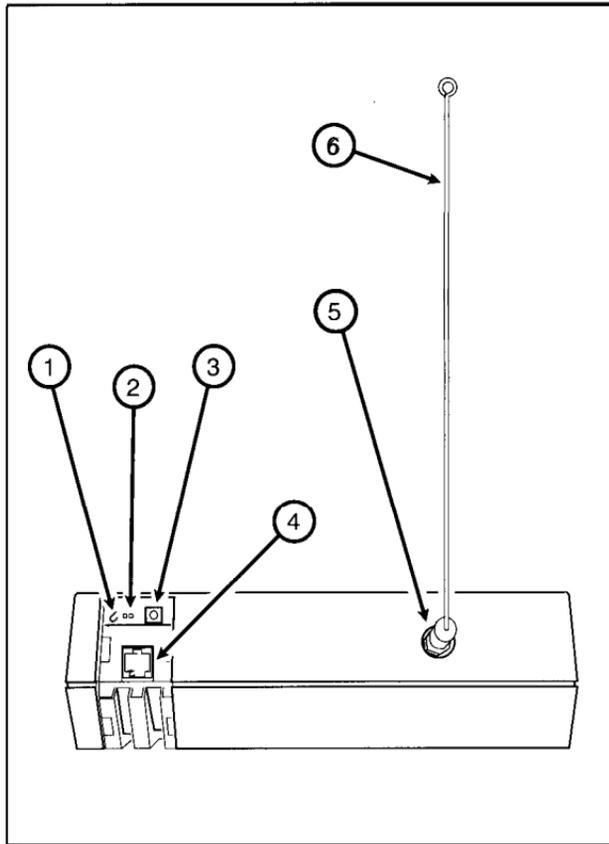

Figure 7. Rear Panel Connections
STEP 1: *Place the Console in Set-up Mode.* To place the Console in *Set-up Mode* simply press the SETUP button located on the rear of the Console next to the power connector (see Figure 7 on Page 6). The Console will beep four times to indicate it has entered *Set-up Mode*.